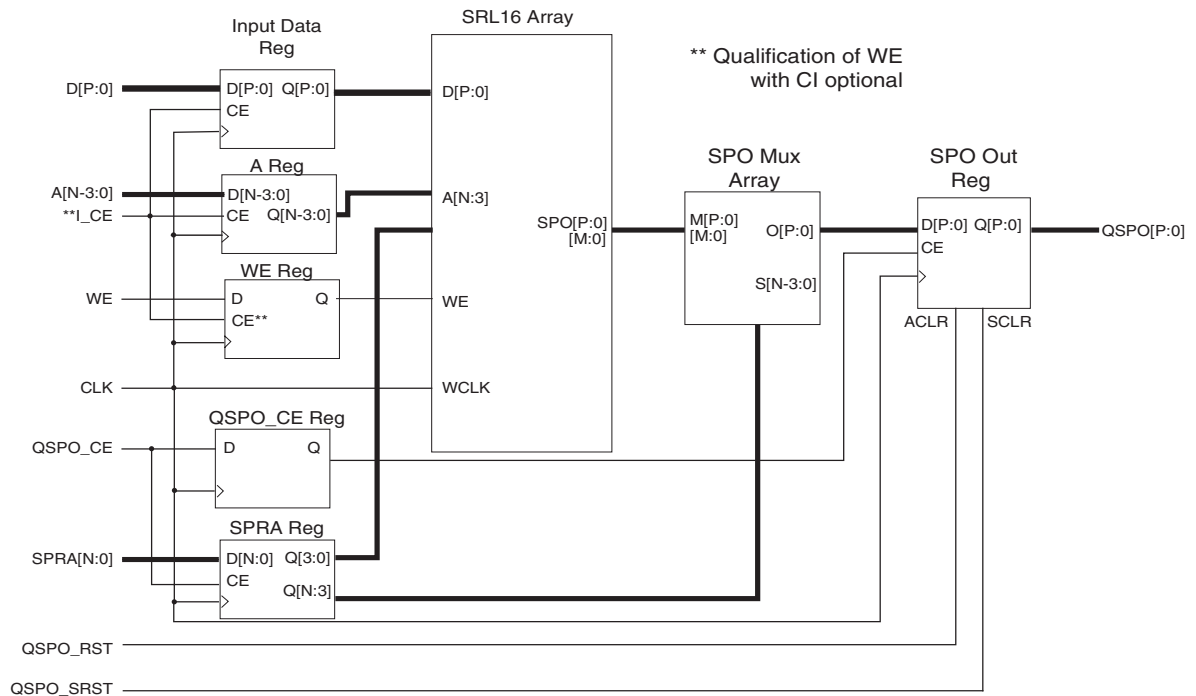

Figure 8: SRL16-Based RAM Module Schematic
- **SRL16-Based RAM.** **Figure 8** illustrates a schematic of the structure of the SRL16-based RAM module. The address and data registers are optional (controlled by the setting of the Input Options parameter). Output registers are also optional (controlled by the setting of the Output Options parameter). The resets and clock enables are optional. When the project family is set to Virtex-5, this option will be greyed-out.